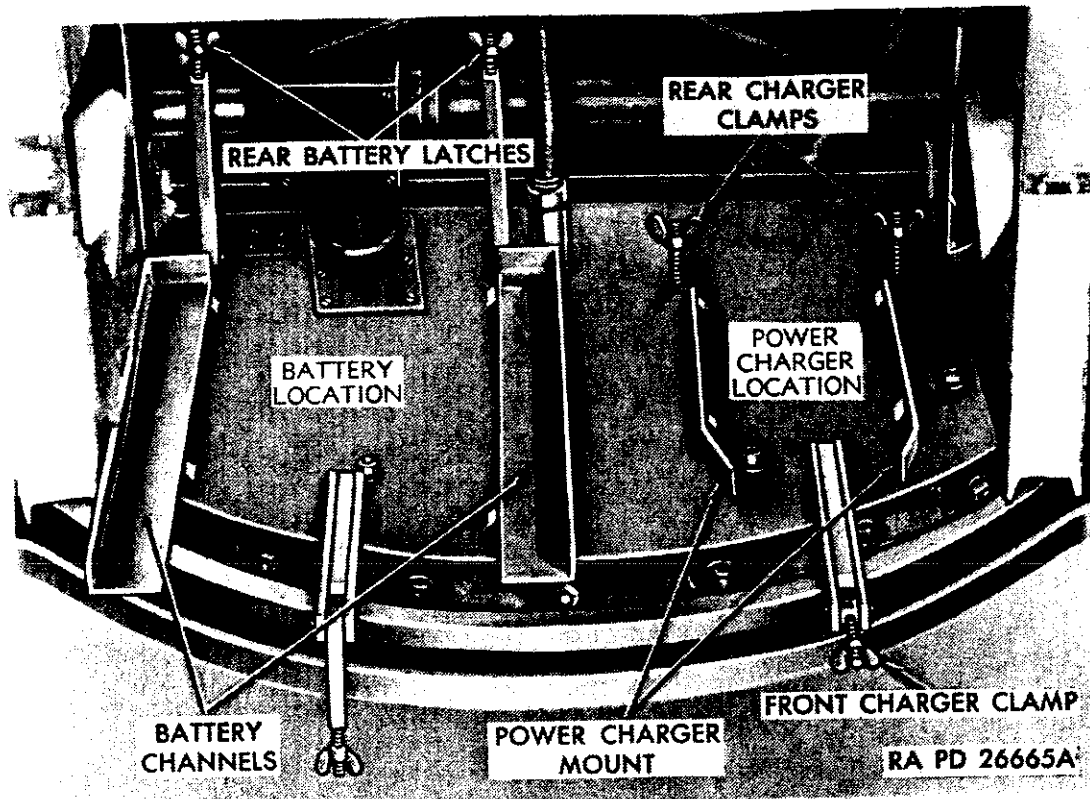

Figure 48. Battery and power charger location.
(4) Remove batteries by sliding from position one at a time (fig. 48).